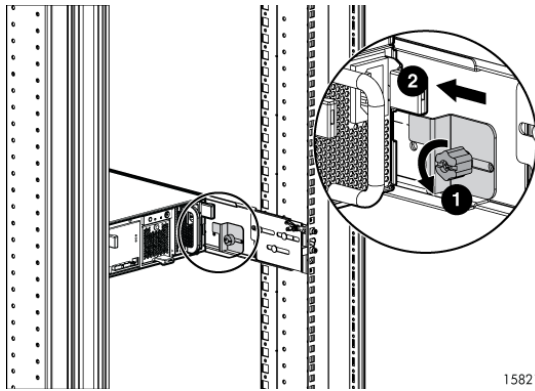

Figure 11 Securing the rear of the enclosure (view from rear of rack)
- a. Loosen the thumbscrew on the shipping retaining bracket (1, Figure 11) and slide the bracket forward (2, Figure 11) until the tab engages the slot in the chassis. Tighten the thumbscrew on the bracket.